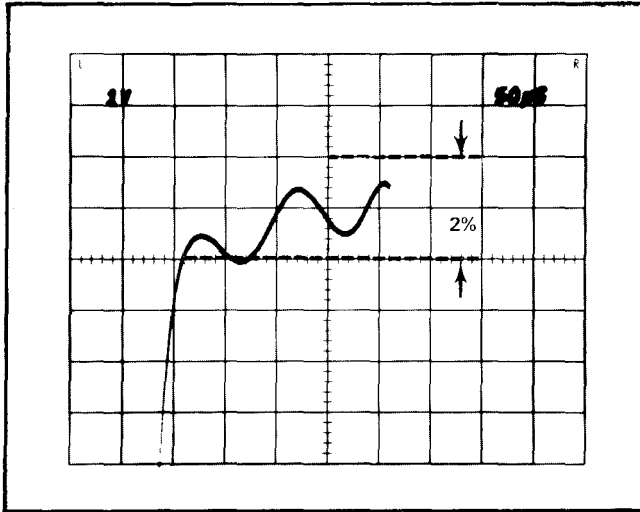

Fig. 3-1. Display of typical 176 Pulsed Collector Supply pulse top.
7. Compare the display of the pulse top with Figure 3-1. For each charge line, the outer coils control the outer peaks of the pulse top and the coils next to the center coil control the center of the pulse top. To adjust a coil, loosen the Allen screws securing the coil in place with an Allen wrench having an insulated shaft. Move the coils together or apart as necessary to equalize the peaks in the pulse top.